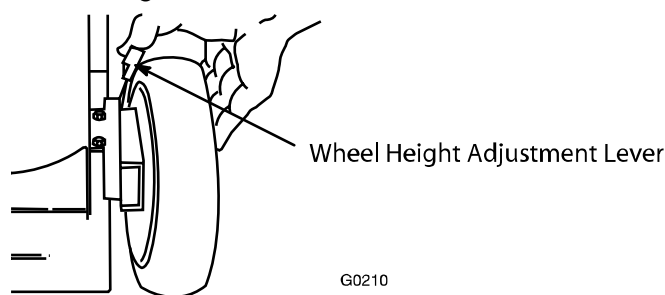

Figure 9
3. Set all four wheels in to the 2-1/2 in. (64 mm) cutting height (Fig 9).
1. Pull the wheel height adjustment lever toward the wheel (Fig. 9) and move it to the desired setting.